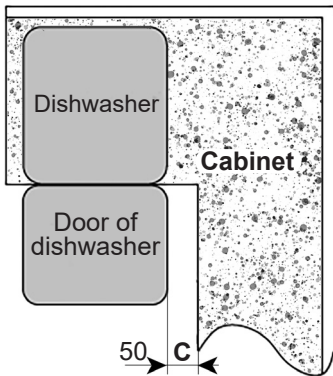

Figure 2
2. If dishwasher is installed at the corner of the cabinet, there should be some space (figure 2) when the door is opened.